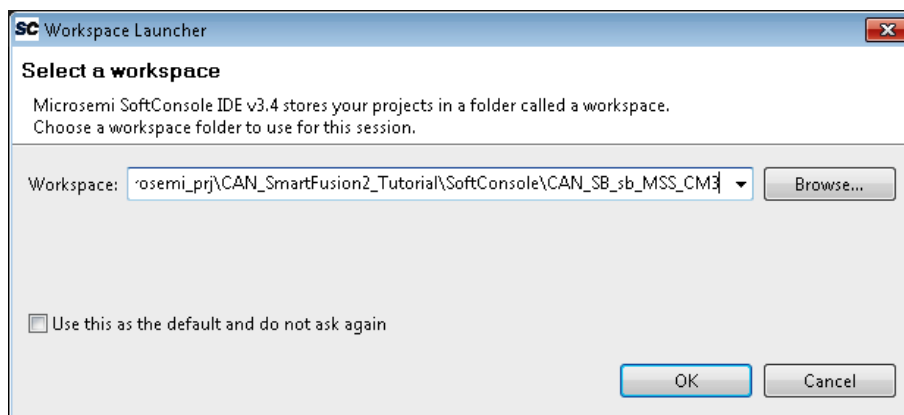

Figure 20 • Specify the SoftConsole Workspace Location
7. Browse and select the Workspace of Softconsole folder where the Libero project is located, as shown in Figure 20.